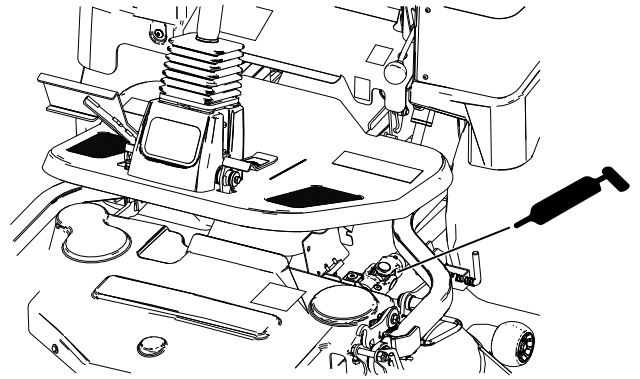

Figure 46
- Forward U-joint of the driveshaft at the mower gearbox (Figure 46).